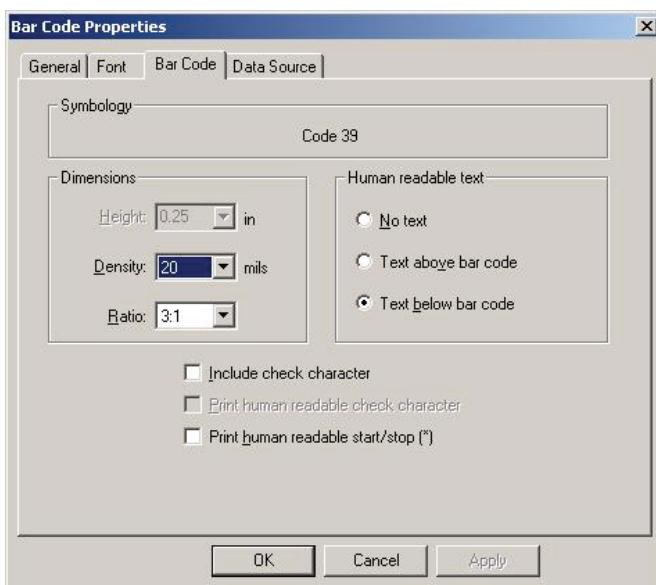

Figure 7-3. Bar Code Properties Tab
3. Click the **Bar Code** tab (Figure 7-3) and complete the desired settings: